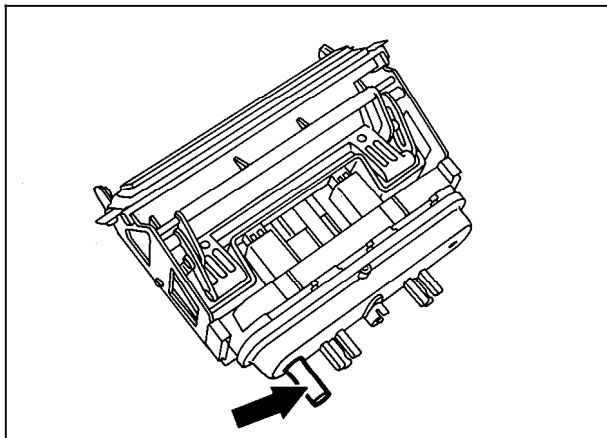

Figure 2
3. Seal the actuator throttle (arrow, Figure 2) with cap 000 987 29 45.